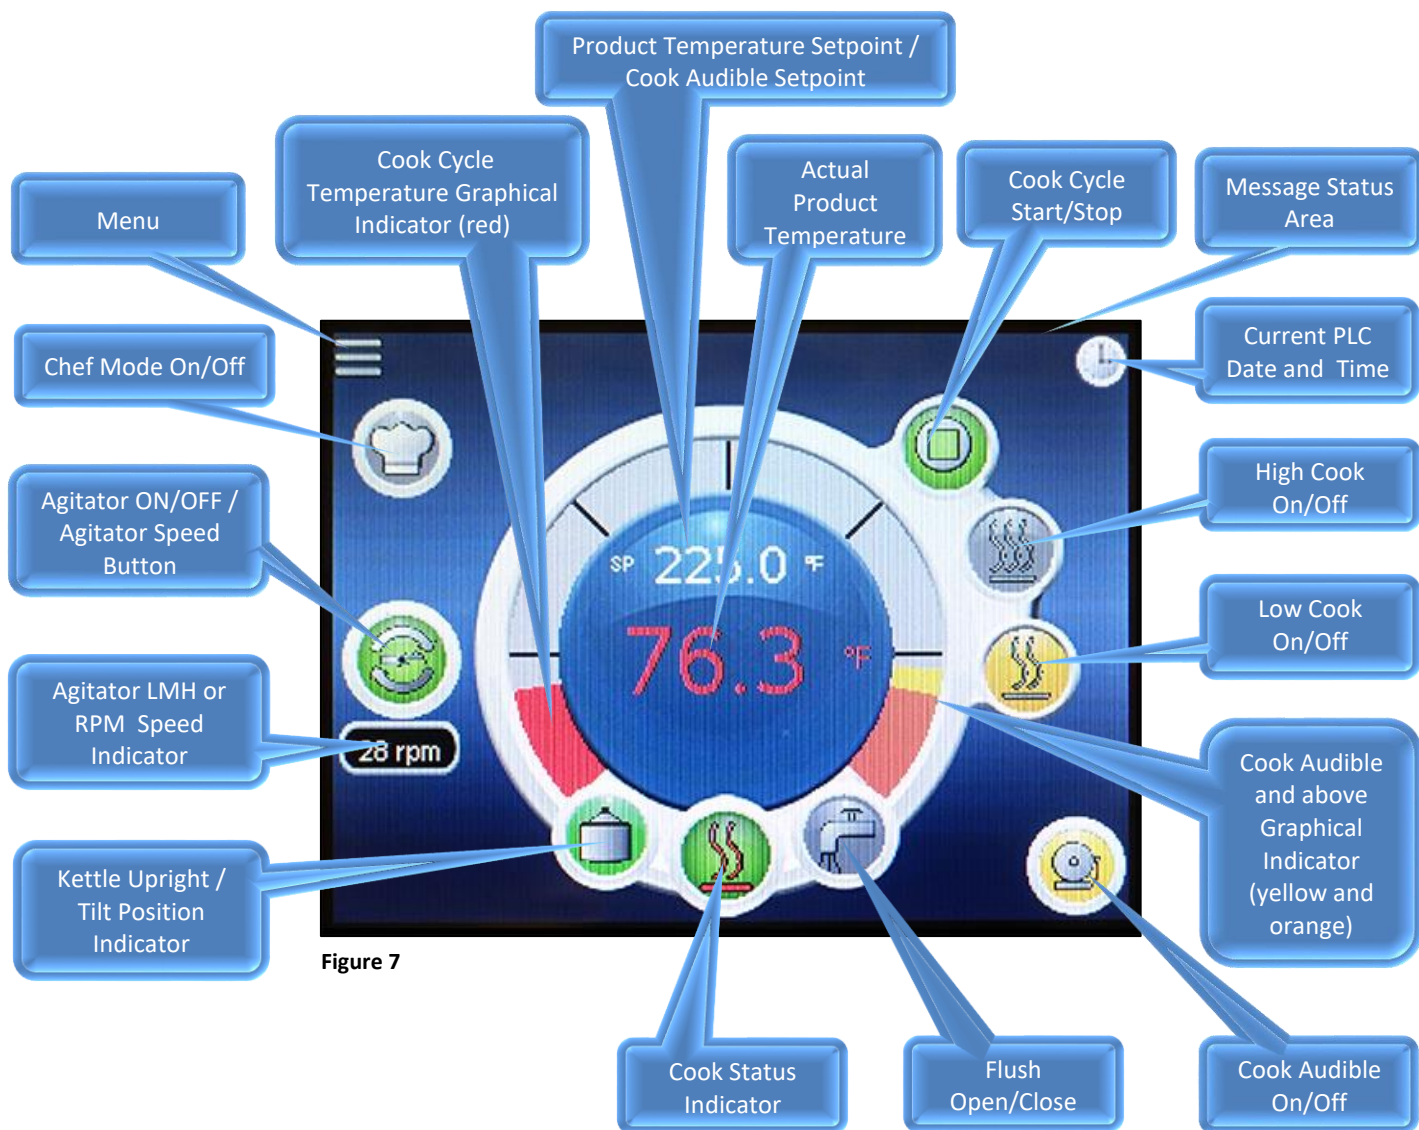

Figure 7
The **Cooking Control** screen, Fig. 7A, is used as the starting point. From this screen you can select the Main Popup Menu from which you can open the Maintenance screen and the Advanced Settings screen and the Help/Information Screen. You can also select the Chef Mode On/Off screen. You can also select High Cook or Low Cook, start and Stop the Cook Cycle, turn the Agitator On and Off, select Agitator speed, open, and close the Flush and turn the Cook Audible On/Off. Familiarize yourself with all of the screens, controls, settings, and indicators, prior to making a batch. Operate the cooker from the Cooking Control Screen, Fig. 7.
**The following are explanations of the Cook Control Screen functions (refer to Fig.7):**